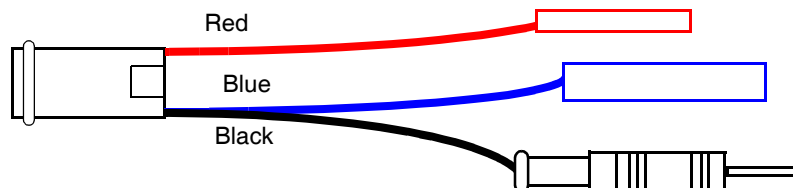

Figure 5-2 Dummy Cell
3. Attach cable ends from the flow cell cable to the dummy cell as in Figure 5-2 (red to red, blue to blue, and black to black). Keep the flow cell in the clamp and keep the large end of the flow cell cable attached to the 2465 Detector.